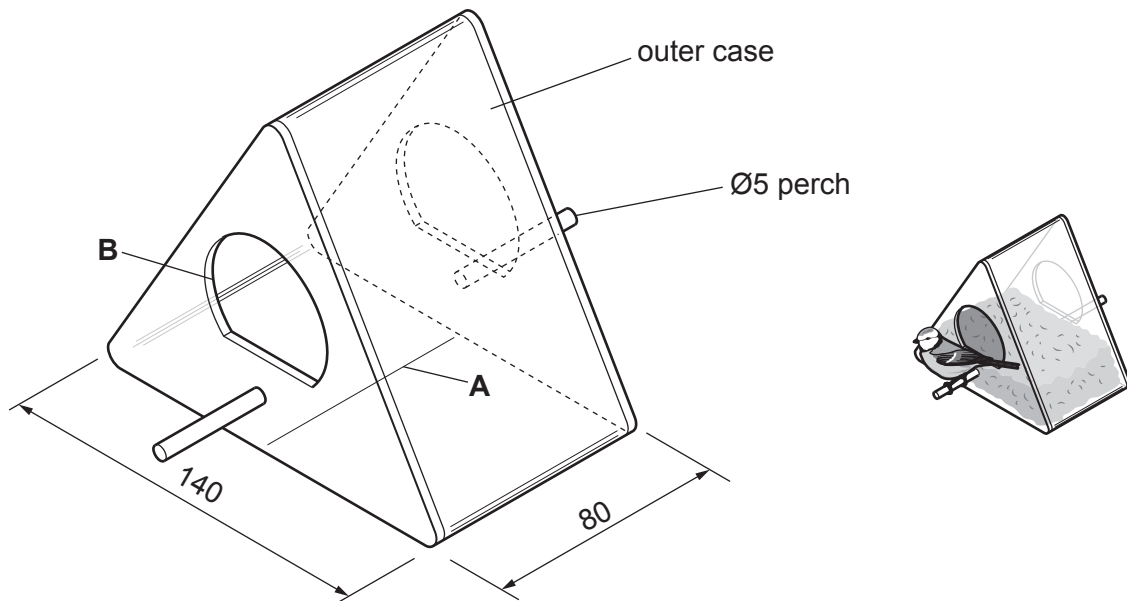

Fig. 13.1
- 13 Fig. 13.1 shows a bird feeder made of 5 mm thick clear acrylic. The bird feeder has an outer case made from one length of acrylic folded and joined at **A**. The bird feeder has an identical front and back, each joined to the edges of the outer case.